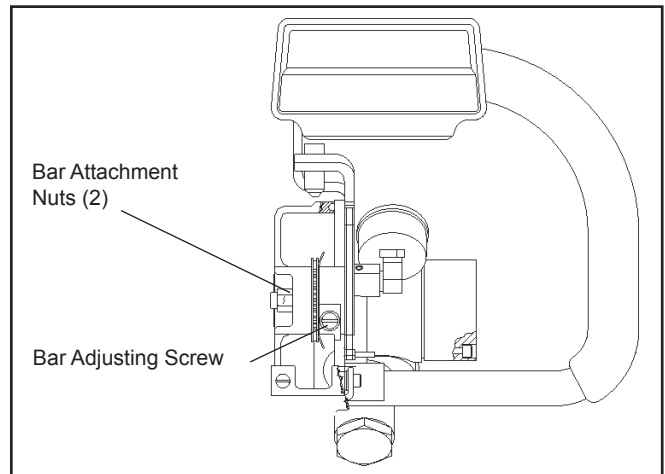

Figure 9. Attachment Screw Locations
2. Loosen the two saw bar attachment nuts (Figure 9).
5. Fully tighten the two saw bar attachment nuts (Figure 9).